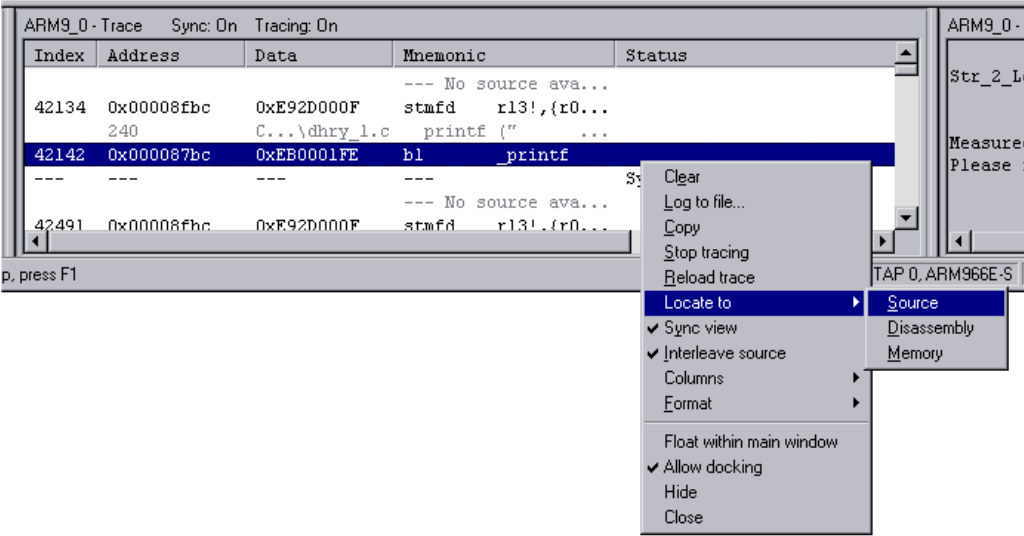

Figure 3-8 Locate code
6. To view the source code, right-click on the line in the Trace Window and select **Locate to Source** (see Figure 3-8 on page 3-8).